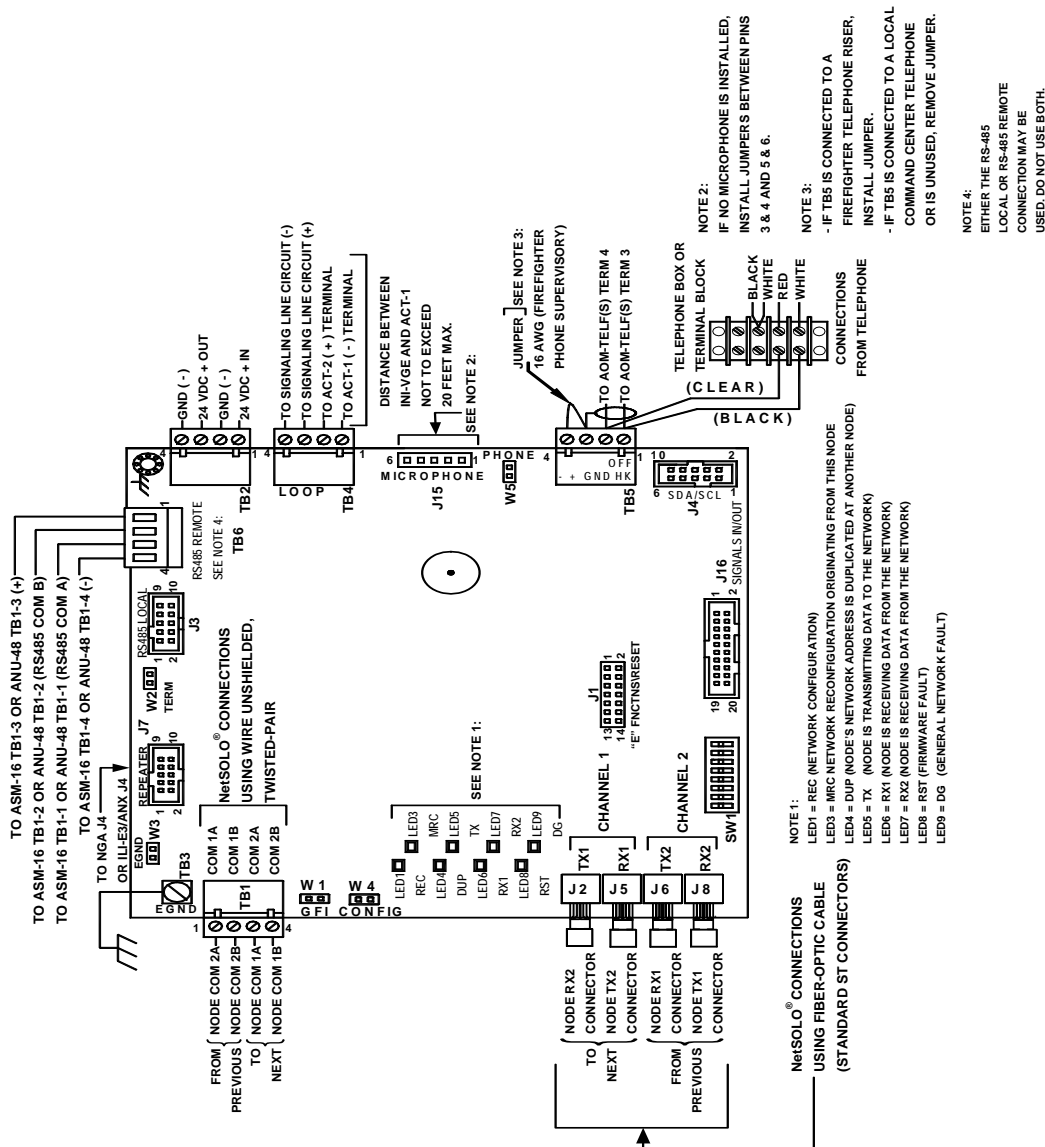

Figure 3.2.1 Typical Connections to the INI-VGE
In the INCC enclosure, the INI-VGE sub-assembly connects to the E3 Series Classic System microphone and fire fighter telephone handset, and supervises and controls up to six (6), ANU-48 or ASM-16 sub-assemblies. Figure 3.2.1 shows all the available connections on the INI-VGE and their functions.